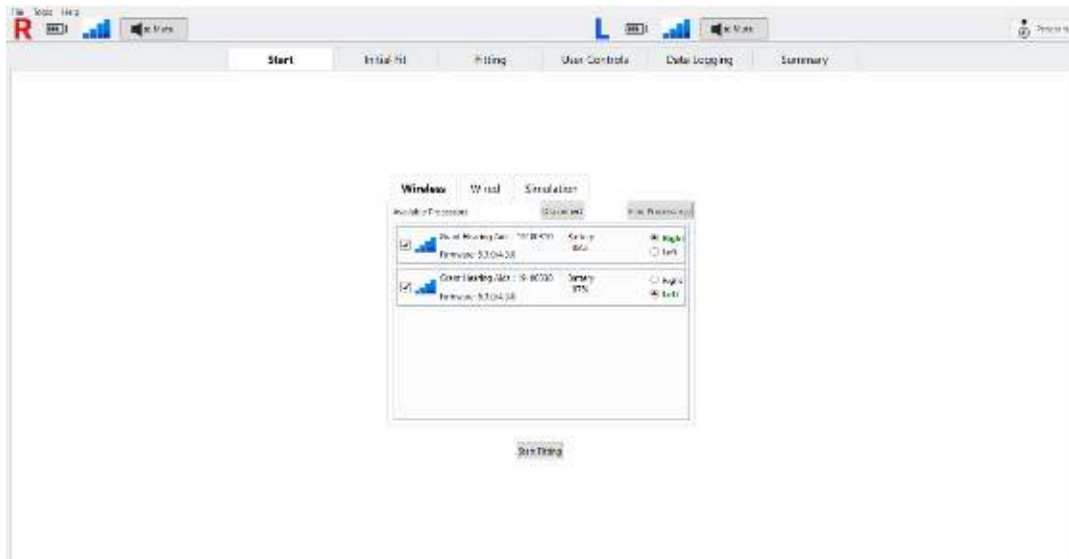

Figure 18. Connect Processors in Start screen
- a. Once the devices are connected, select "Start Fitting" to begin the fitting session (Figure 18).